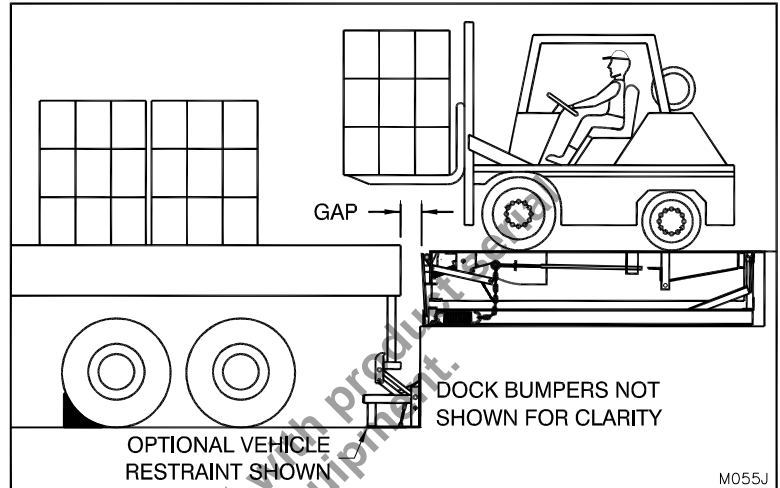

Figure 49: End Loading/ Unloading
1. Load or unload END LOADS with the deck and lip in the stored position as shown in “Figure 49: End Loading/ Unloading” on page 39. (See “END LOADING/ UNLOADING INSTRUCTIONS” on page 39 and “END LOADING BELOW LEVEL CONTROL OPERATION” on page 39)